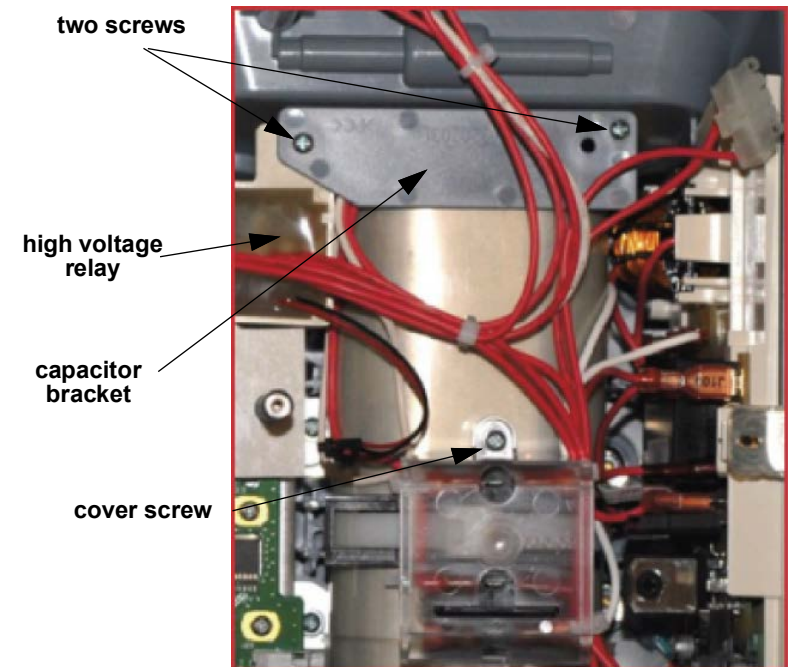

Figure 8.65—Transfer relay parts and screw
Refer to Figure 8.65 on p. 268.
3. Connect the white transfer relay lead to the interconnect bracket at pin 7 (see Figure 8.65 on p. 268). Needle nose pliers may be used to assist in the connection.
5. Install the capacitor bracket (REF M33) using two new screws (REF F06); torque to 6.8 in-lb (see Figure 8.65 on p. 268).